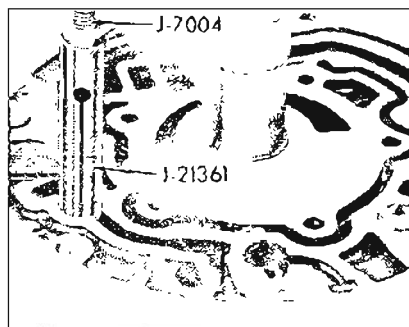

Figure 5-190
8. Remove seat, valve and spring from cooler by-pass valve and lube blow off valve. Use tool J-21361 to remove seat from bore in pump cover. See Figure 5-190.